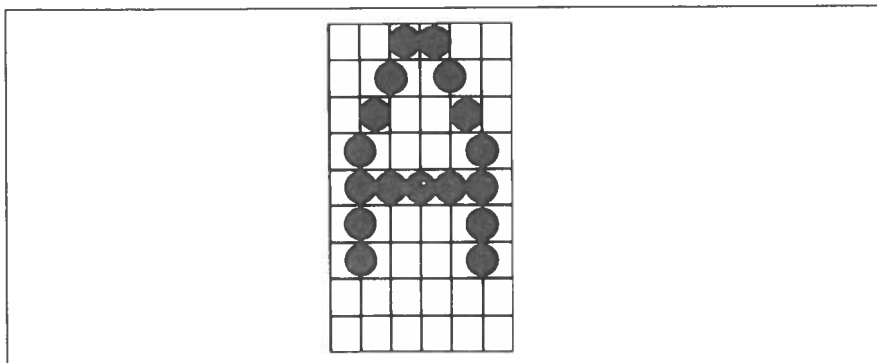

Figure 5-1. Dots can be inside boxes or straddle the vertical lines of the grid
- Horizontally, dots may be centered in a box, or may straddle a line, making the actual character grid 11 dots wide by 9 dots high. Vertically, dots can only be centered in a box. See Figure 5-1.